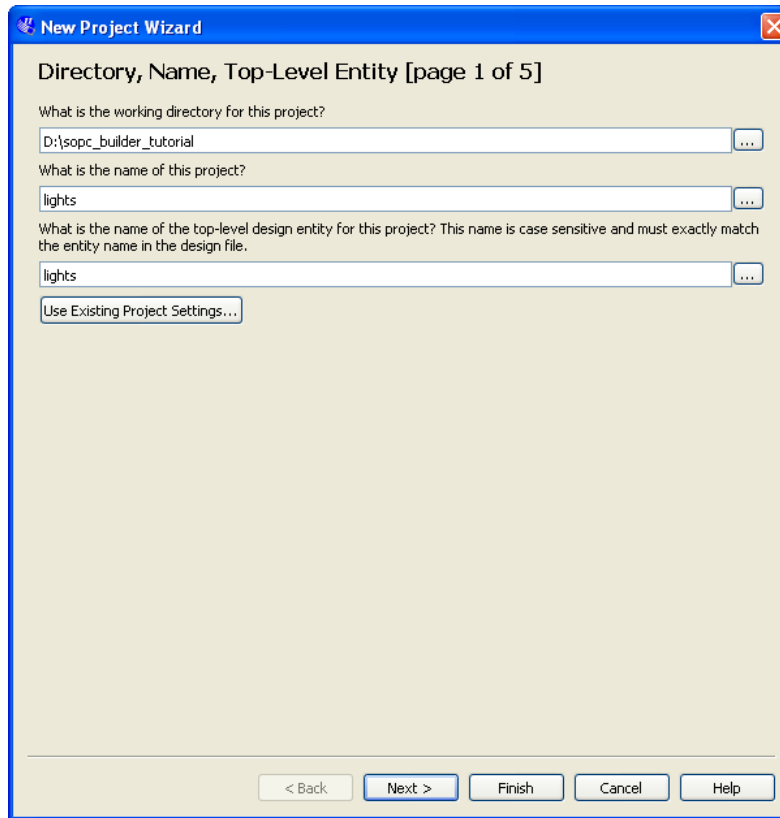

Figure 3. Create a new project.
1. Create a new Quartus II project for your system. As shown in Figure 3, we stored our project in a directory called *sopc_builder_tutorial*, and we assigned the name *lights* to both the project and its top-level design entity. You can choose a different directory or project name, but be aware that the SOPC Builder software